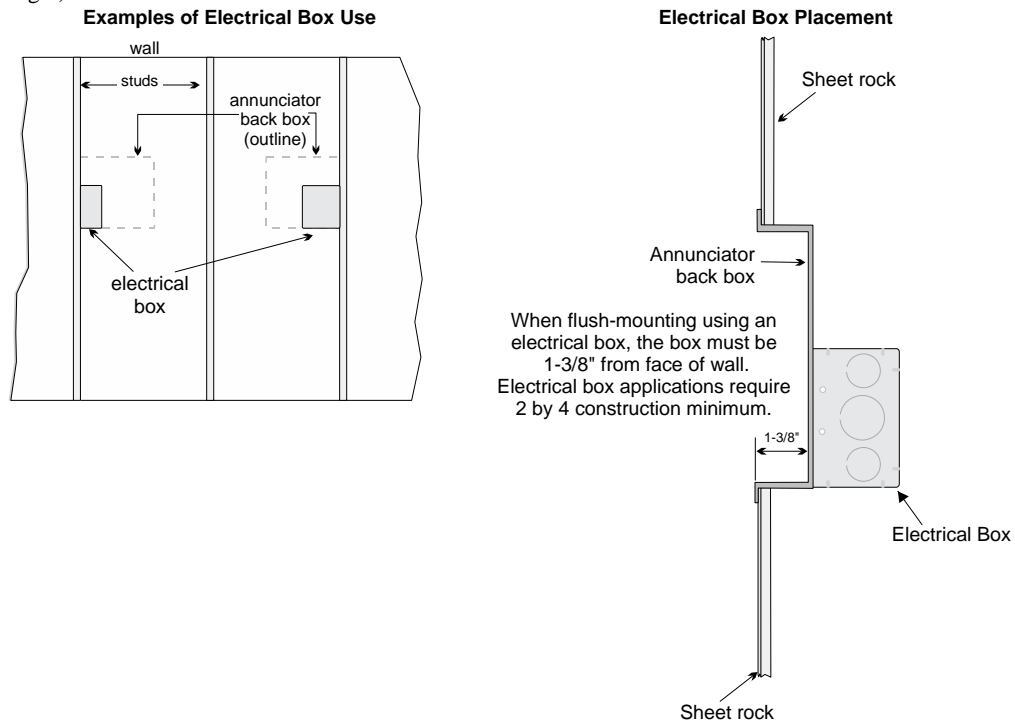

Figure 4.12 Placement of Electrical Box for Flush Mounting
1. Cut a hole in the sheet rock to the following dimensions: 8-1/4" W x 6-5/8" H. If an electrical box is used, the box must be 1-3/8" back from face of wall to accommodate the annunciator (see Figure 4.12).